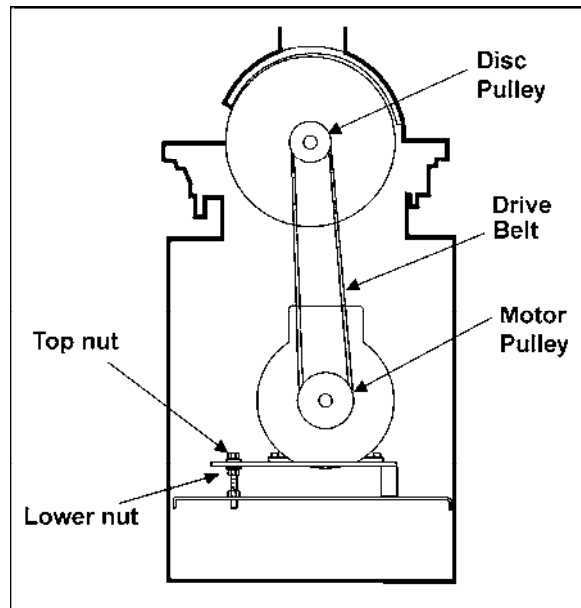

Figure 4
Refer to Figure 4:
5. The *drive belt* is already mounted on the *disc pulley* behind the disc, as shown in Figure 4. However, it should be checked to ensure that it is in the pulley groove.